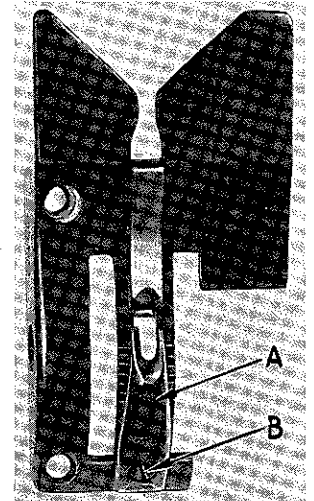

Fig. 10
Included with the accessories of your machine, you will find an auxiliary throat plate insert No. 2130 (A, Fig. 10) and attaching screw No. 77 K (B).
The assembly of this insert to the throat plate is illustrated in Fig. 10.